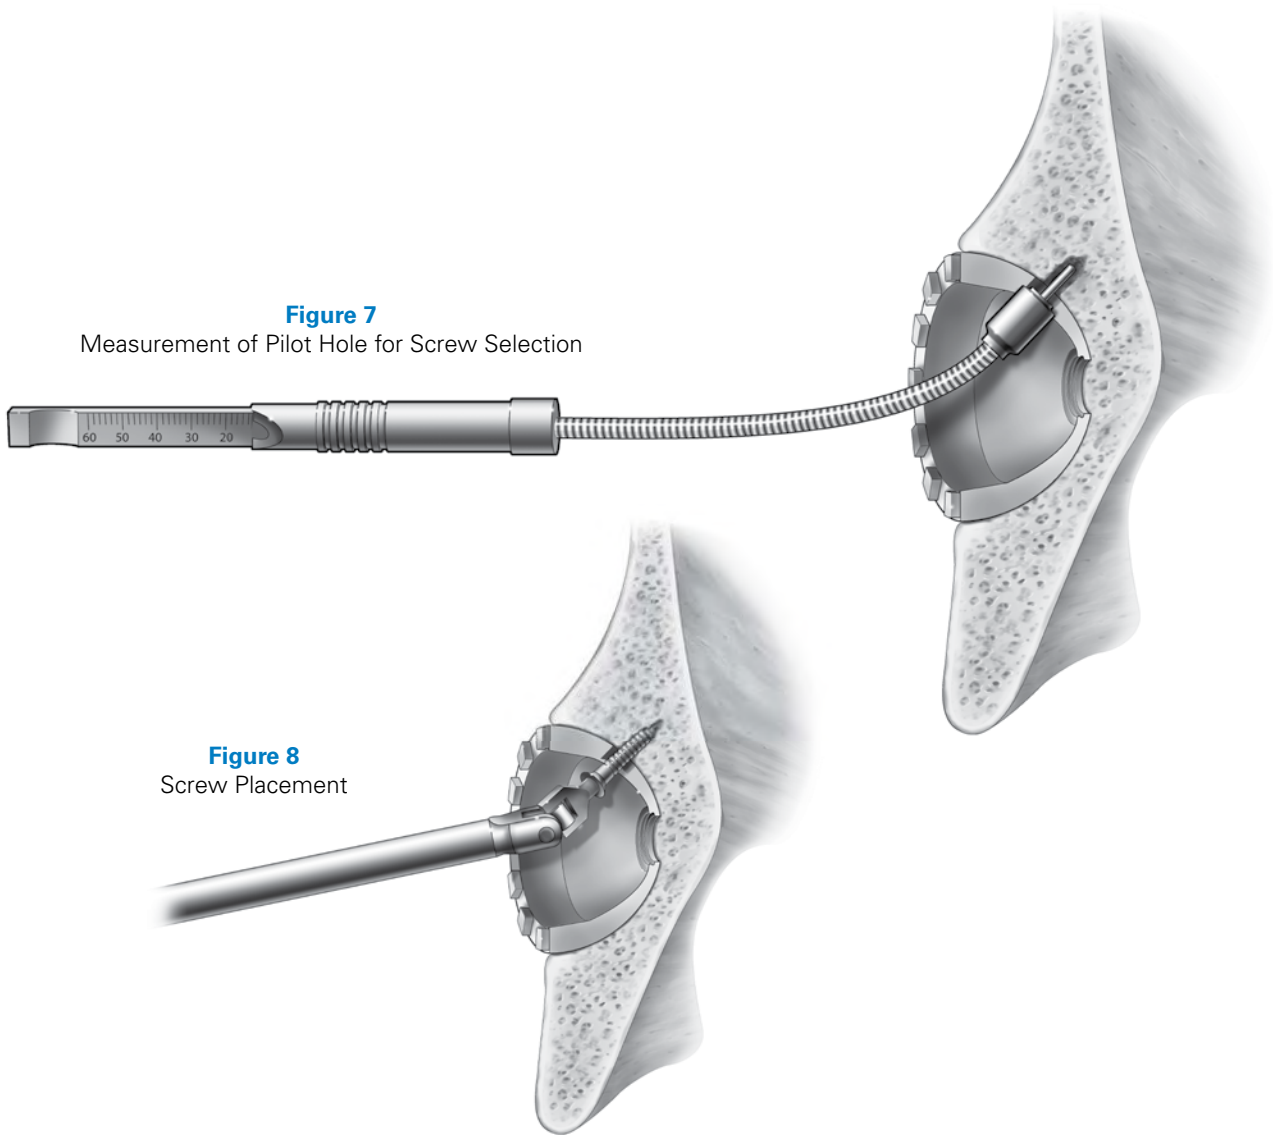

Figure 7
Step 3: Determine screw length by inserting the Flexible Depth Gauge and sliding the barrel down into the screw hole (*Figure 7*).